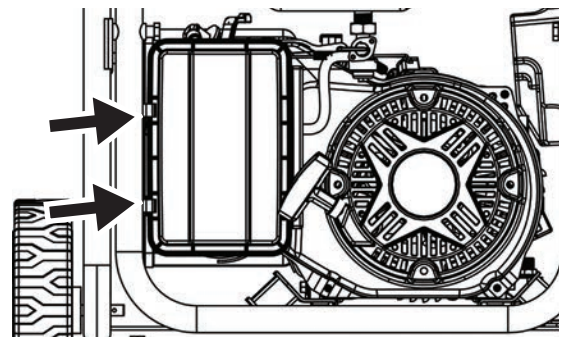

Figure 21 - Unclip air filter
3. Unclip the clips on the side of the air filter cover (Figure 21).